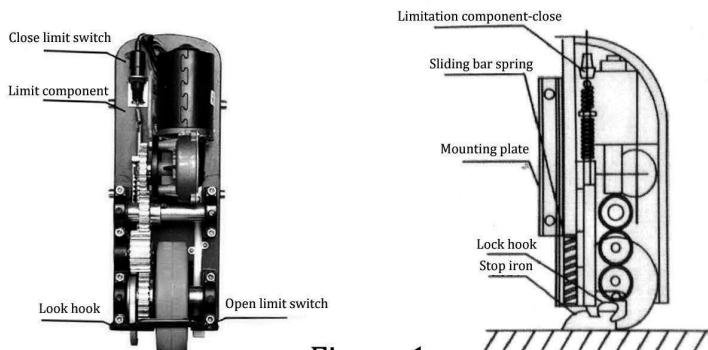

Figure 1
1. Opener structure, as shown in Figure 1